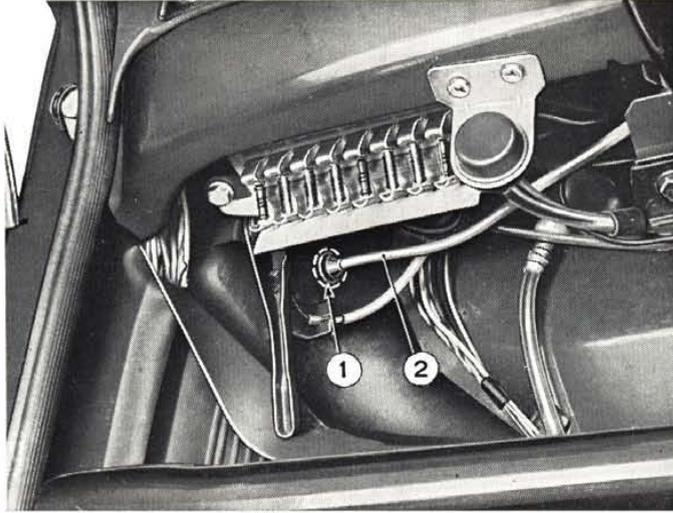

Fig. 382 - Detail showing the arrangement of the antenna cable in car interior.
The antenna trimmer is located on the antenna cable (2, fig. 382) to the set for an easier aligning of the antenna circuit.
- detach a length of the left-side wheelhousing rubber mat at the upper end and drill a .591" (15 mm) opening (1, fig. 382) 1 3/16" (3 cm) above the hood catch cable square plate;